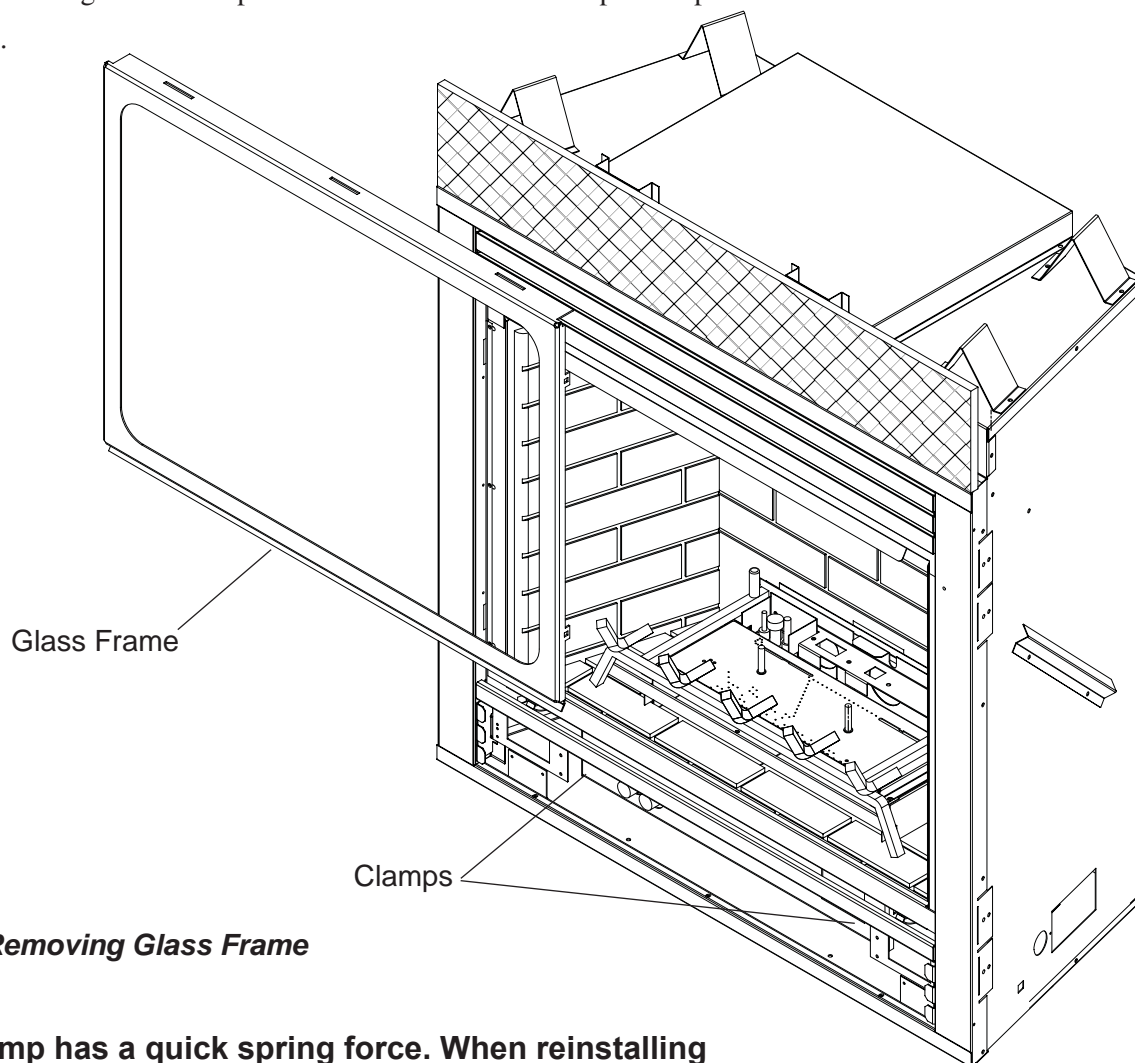

Figure 44 - Removing Glass Frame
1. Release two clamps on bottom of fireplace. *See Figure 44.*